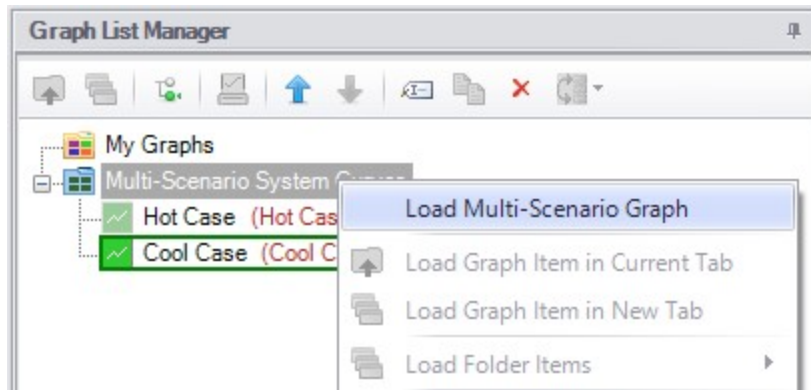

Figure 3: A Multi-Scenario Graph can be loaded from a Multi-Scenario graph folder
5. When all of the individual Compressor/Fan vs. System curves have been added to the folder, right-click on the folder name and choose "Load Multi-Scenario Graph," as is shown in Figure 3.